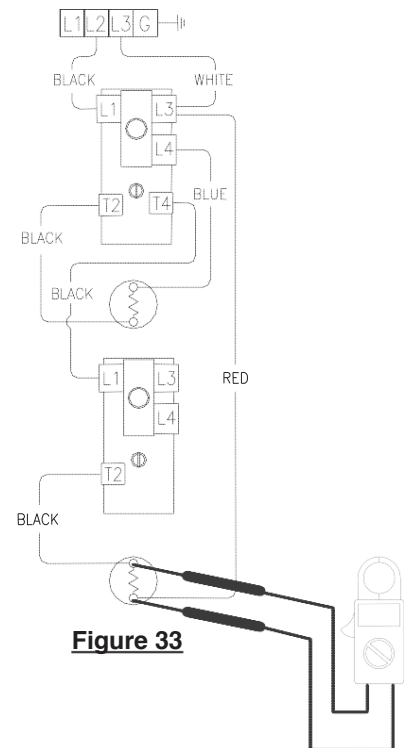

Figure 33
8. Check voltage across lower element (see Figure 33).